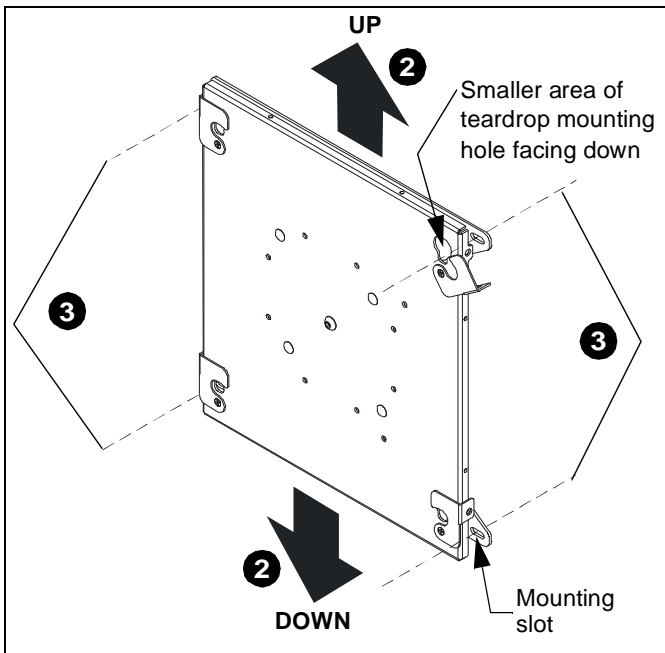

Figure 1
2. Verify that mount is oriented properly for mounting. (See Figure 1)